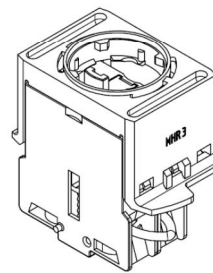

Fig. 1: Assembly of MTZU to the module holder MHR_3
- Module holder type MHR_3 may not be used for the two-channel version, see fig. 1 – fig 3Fig 2